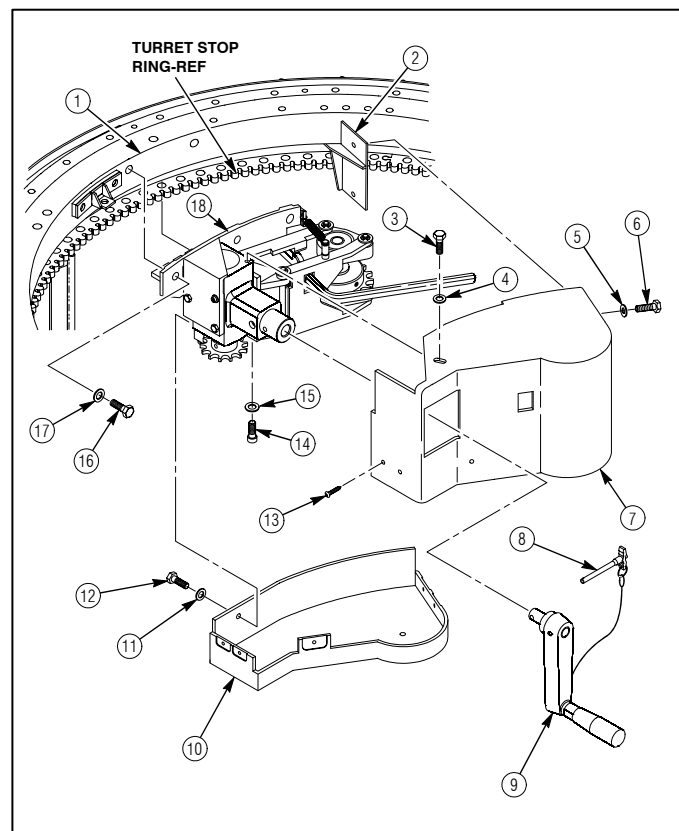

Figure 45
2. Apply 8030-01-025-1692 sealing compound to threads of two 4397000-059 capscrews (16) and one 4397030-120 socket head capscREW (14). Refer to figure 45.
3. Install 4397030-120 socket head capscREW (14) and 4397005-014 washer (15) into center hole in bottom side of turret bearing (1). Leave socket head capscREW (14) out approximately .250 inch to allow installation of traversing gear assembly (18). Refer to figure 45.
4. Install 6434946-01M1 traversing gear assembly (18) onto turret bearing (1) and ensure washer (15) is on bottom side of traversing gear assembly (18). Refer to figure 45.
5. Secure traversing gear assembly (18) to side of turret bearing (1) with two 4397000-059 capscrews (16) and 4397005-014 washers (17) as shown in figure 45. Do not tighten capscrews (16) at this time.
6. Tighten socket head capscrew (14) to 37 lb-ft (50 N·m). Refer to figure 45 (pg.41).
7. Tighten two capscrews (16) to 37 lb-ft (50 N·m). Refer to figure 45 (pg.41).
8. Apply 8030-01-025-1692 sealing compound to threads of four 4397000-005 capscrews (6, 3 & 12). Refer to figure 45 (pg.41).
9. Install 4662414-002 traversing upper cover (7) on 4662416-002 front cover bracket (2) with two 4397000-005 capscrews (6) and 4397005-010 washers (5) as shown in figure 45 (pg.41). Do not tighten capscrews (6) at this time.
10. Install 4662414-002 traversing upper cover (7) on 6434946-01M1 traversing gear assembly (18) with 4397000-005 capscrew (3) and 4397005-010 washer (4) as shown in figure 45 (pg.41). Do not tighten capscrew (3) at this time.
11. Install 4662418-002 traversing lower cover (10) with five 4397054-032 screws (13) as shown in figure 45 (pg.41). Do not tighten screws (13) at this time.
12. Install 4662418-002 traversing lower cover (10) to 6434946-01M1 traversing gear assembly (18) with 4397000-005 capscrew (12) and 4397005-010 washer (11) as shown in figure 45 (pg.41).
13. Tighten five screws (13). Refer to figure 45 (pg.41).
14. Tighten two capscrews (6) and capscrew (12) to 10 lb-ft (14 N·m). Refer to figure 45 (pg.41).
15. Tighten capscrew (3) to 30 lb-in. (3 N·m). Refer to figure 45 (pg.41).
16. Install quick release crank handle assembly (9) on traversing gear assembly (18) and secure with pin assembly (8). Refer to figure 45 (pg.41).